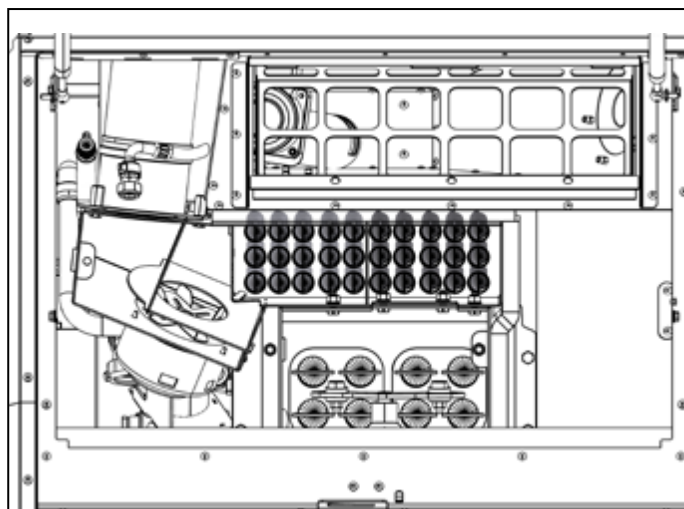

Figure 11-9: Secondary heat exchanger spirals
- Check that all spiral baffles are correctly aligned with the top edges running 'front to back'. Refer to Figure 11.9.